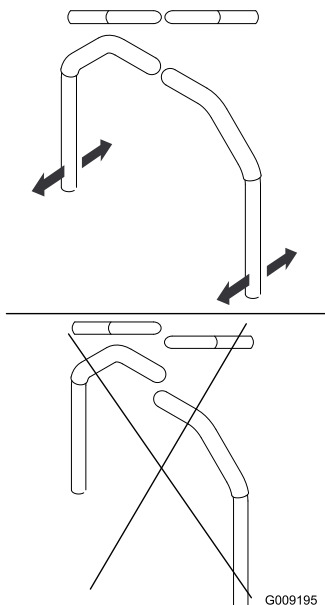

Figure 86
4. Align the levers front to rear position by bring the levers together to the neutral position and slide them until they are aligned, then tighten the bolts (Figure 86).